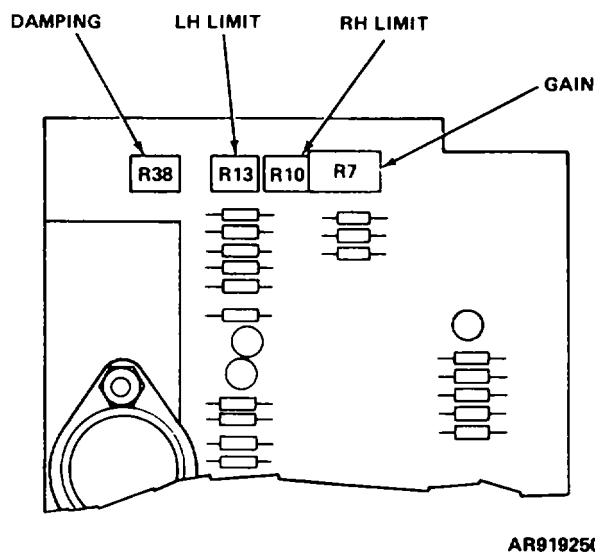

Figure 5. Servo amplifier adjustments
(2) Make the following adjustments on the servo amplifier boards (A7) (see fig. 5):